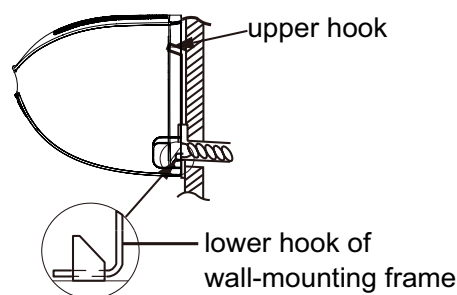

Fig.15
- (5) Check if the indoor unit is installed firmly and closed to the wall. (As show in Fig.15)